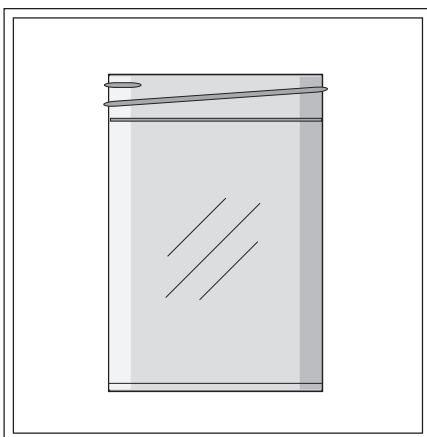

FIGURE 3-3: DATASONDE 4 CALIBRATION AND STORAGE CUP (SIDE VIEW)
- 1 DS4 calibration cup (see figure 3-3, on the previous pages)